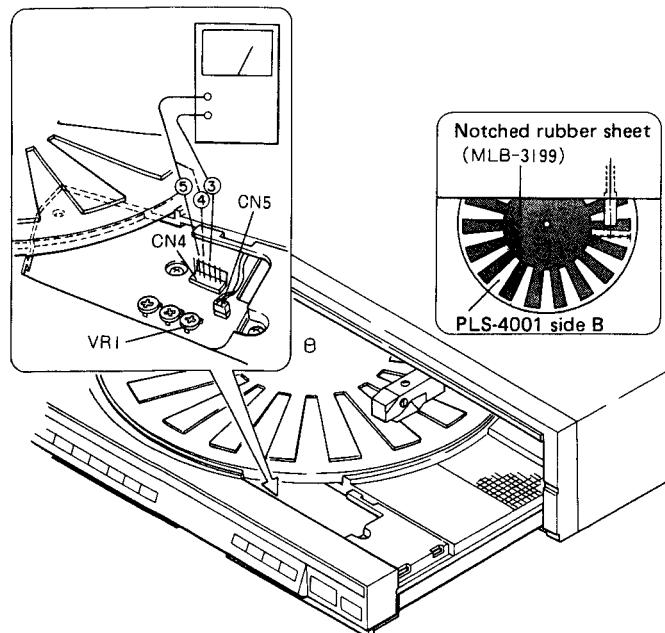

Fig. 12-5 Band Sensor Gain Adjustment
3. Turn on the power and set the speed to 45 rpm. Using the locate switch ( $<$ ), move the tonearm over the center of the slits in the notched rubber sheet as shown in figure 12-5.